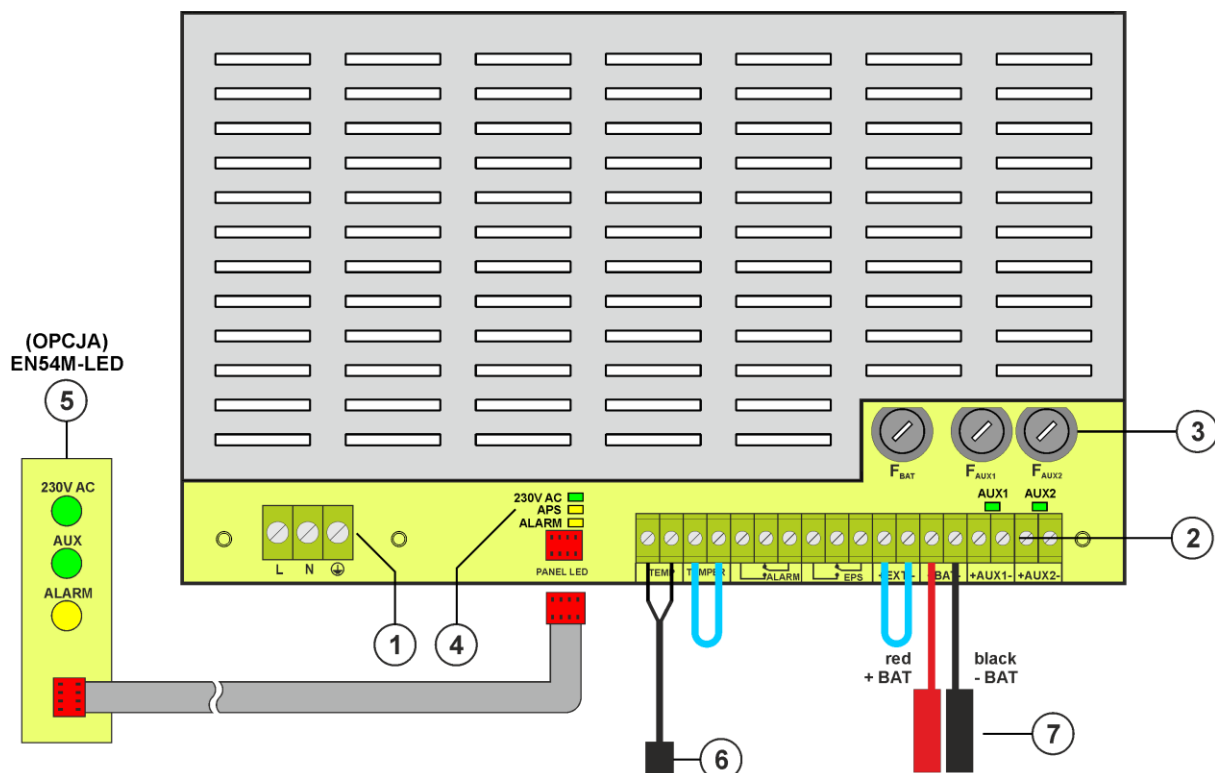

Fig. 2. View of the PSU module.
Table 1. Elements of the PSU module (Fig. 2).
①	L-N-PE 230 V power connector with protective terminal
②	Terminals: TEMP – input of the battery temperature sensor TAMPER – input of the microswitch tamper Closed input = no indication Open input = alarm ALARM – technical output of collective failure of the PSU - relay type EPS – technical output of AC power failure indication open = AC power failure closed = AC power - O.K. EXTi – external failure input Closed input = no indication Open input = alarm +BAT- – terminals for connecting the battery +AUX1- – AUX1 power output (- AUX=GND) +AUX2- – AUX2 power output (- AUX=GND) CAUTION! In Fig.2 the set of contacts shows a potential-free status of the relay, which corresponds to power supply failure.
③	Fuses: F_{BAT} – fuse in the battery circuit, F_{AUX1} – fuse in the AUX1 output circuit, F_{AUX2} – fuse in the AUX2 output circuit, The fuse values are given in table 4 - "Electrical parameters".
④	LEDs – optical indication: 230 V – voltage in the 230 V circuit APS – battery failure ALARM – collective failure AUX1 – AUX1 output voltage (at the AUX1 connector) AUX2 – AUX2 output voltage (at the AUX2 connector)
⑤	PANEL LED – the EN54M-LED external optical indication panel
⑥	Battery temperature sensor
⑦	Battery connectors ; positive: +BAT = red, negative: - BAT = black
4. Install the batteries in a designated area of the enclosure. Connect the batteries with the PSU paying special attention to the correct polarity. Batteries must be connected in series using the special cable (included). Attach the temperature sensor to any of the batteries with mounting tape (included). Screw the temperature sensor to the "Temp" terminals of the power supply (Figure 2, point 6). Insert the sensor between the batteries.